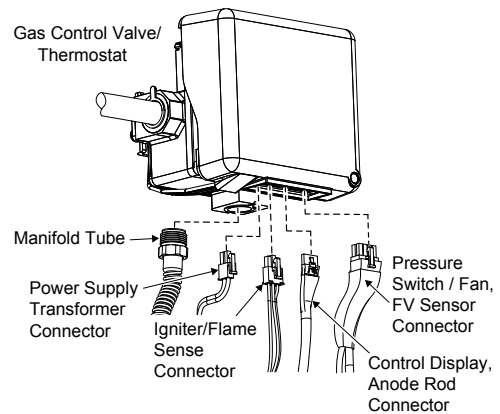

FIGURE 24.
4. Disconnect all wiring connectors from the gas control valve/thermostat (Figure 24). Disconnect the manifold tube at the gas control valve/thermostat.
7. Reconnect the flame sense/hot surface igniter wire to the gas control valve/thermostat (Figure 24).
5. Disconnect the the flame sense/hot surface igniter wire, power supply transformer, pressure switch/fan and display connector wires from the thermostat (Figure 24). Disconnect the manifold tube at the thermostat (Figure 24).
3. Reconnect the manifold tube, flame sense/hot surface igniter wire, power supply transformer, pressure switch/fan and display connector wires (Figure 24).